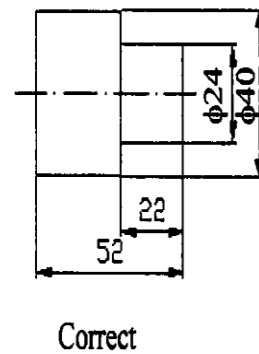

Figure 4 Marking of Extension Line.
7. No gap should be left between the feature and the start of the extension line (Fig.4).